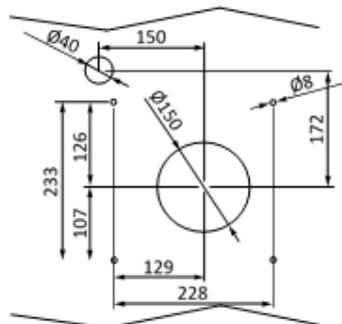

Fig 3
1. Mark out the cable entry, ducting entry and screw holes on the wall (Fig 3).